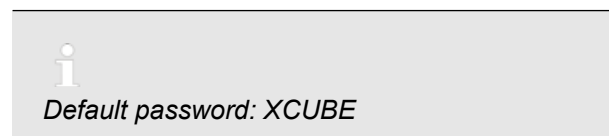

Fig. 26: Entering your user name and password
1. ▶ Select the 'Username' field ( Fig. 26 ), enter your user name and confirm your entry by pressing 'Enter'.
2. ▶ Select the 'password' field ( Fig. 26 ), enter your password and confirm your entry by pressing 'Enter'.
3. ▶ Press 'Login' ( Fig. 26 ).